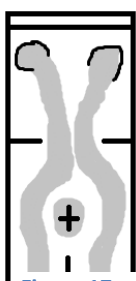
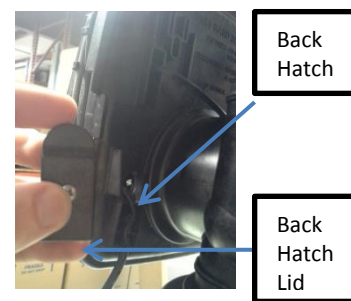

Figure 17: Inner Back Hatch
Figure 18: Back Hatch Diagram
- D. Remove the back hatch from valve A using a screwdriver. A diagram of the back hatch is shown in Figure 17 and Figure 18.